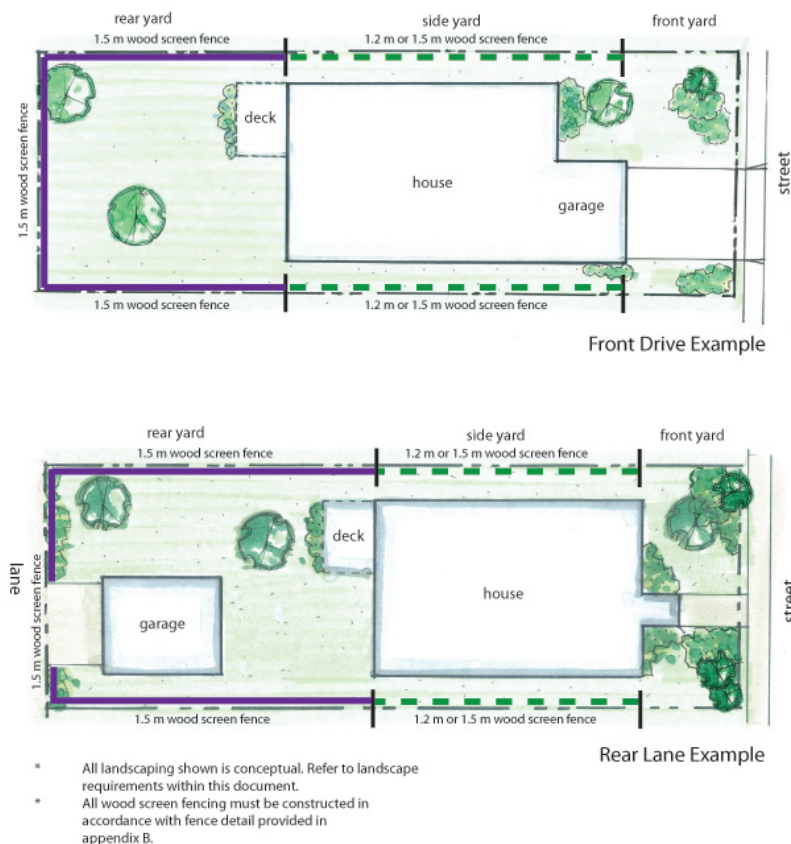

Figure 2: Fencing Plan – Typical Lots
- 12.3.3 Fencing for typical lots shall be designed as shown in **Figure 2: Fencing Plan – Typical Lots**, with 1.5 m wood screen fencing along the rear and side yards. Fencing height may be reduced to 1.2 m along the length of the house structure.